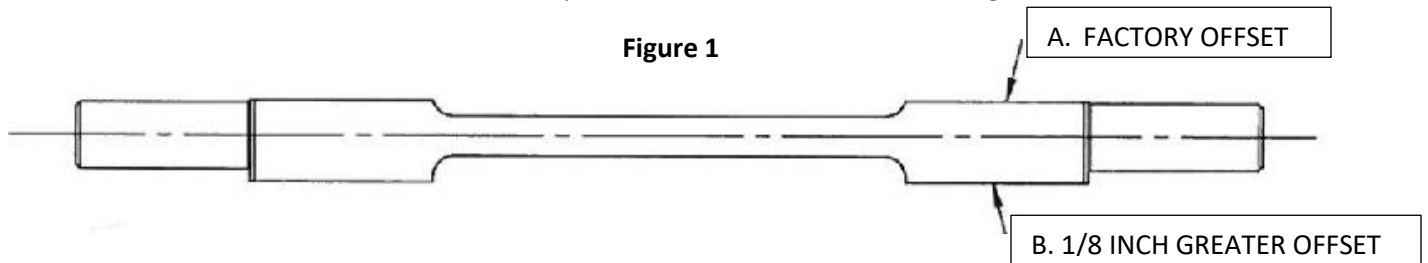

Figure 1
2. QA1 upper control arms have offset cross-shafts with one side being the factory offset side and the other being a high offset side. The purpose of the high offset side is to reduce the amount of shims needed when using the factory offset side. For initial installation use the factory offset side with the same amount of shims that were taken out of the factory arms. Be sure the upper control arms both have the cross shafts facing the same direction. See **Figure 1**.